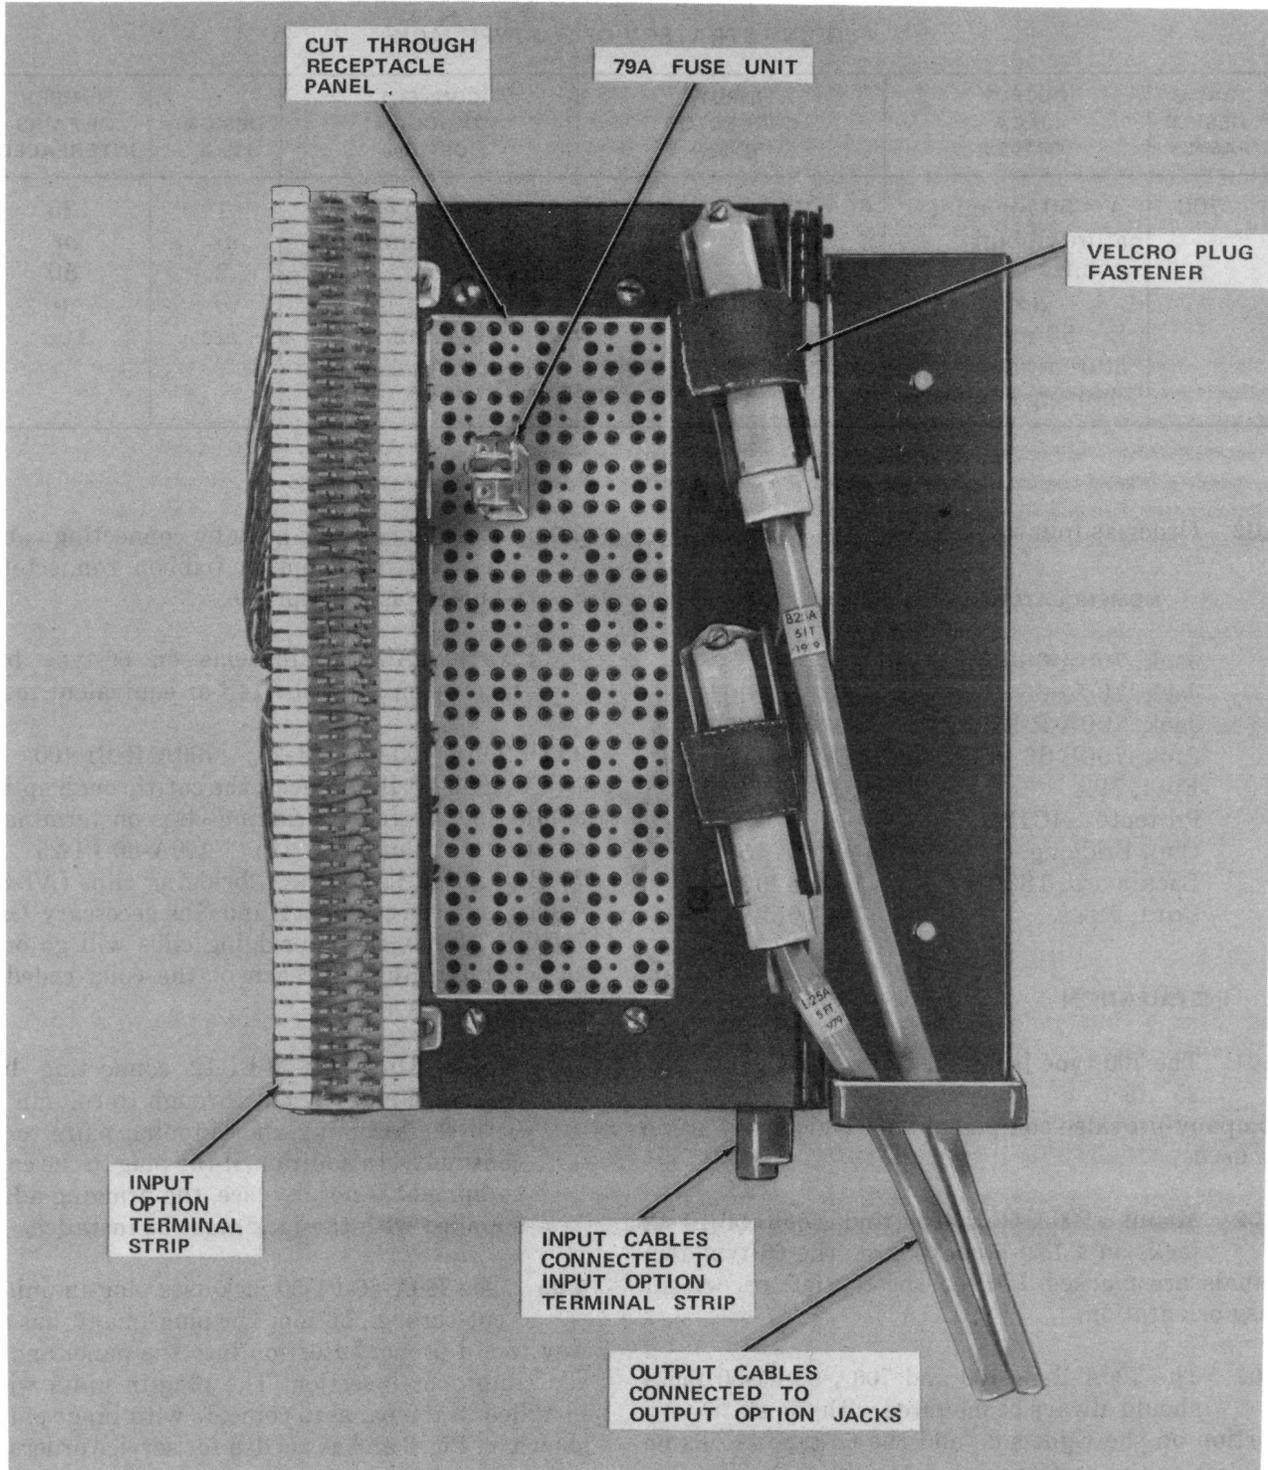
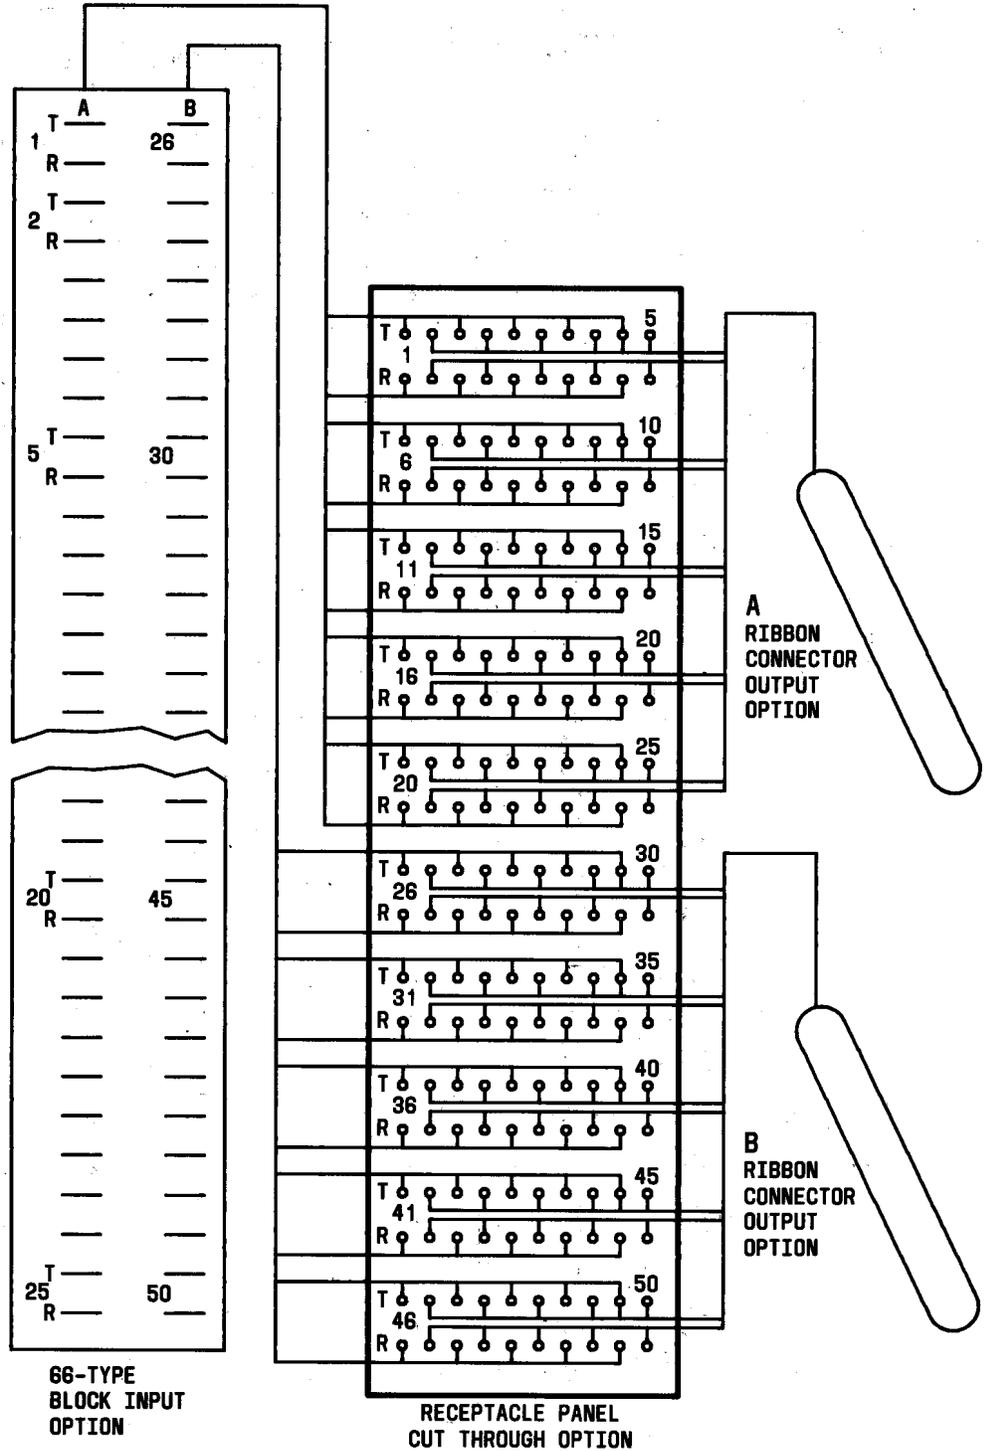

Fig. 2—700A-66-P1-50 Jack
Fig. 6—Wiring of 700A-66-P1-50 Jack
2.05 The 700A-66-P1-50 jack (Fig. 2) is a special purpose interface which provides a 50-pair 66-type connecting block for input option, two 50-pin ribbon connectors for output option, and a receptacle panel which accepts plug-in units for sneak current protection. The panel is separated into two fields, A and B, which coincide with the two output connectors A and B (Fig. 6). The block, connectors, and panel are mounted on a hinged faceplate which allows the input cables to be dressed up the back of the panel and fed through an access hole to the connecting block. The plug-in units (79A fuse or 4C12C dummy protector [Fig. 9]) must be ordered separately as required.
**3.06** The 700A-66-P1-50 jack uses plug-in units for cut-through option. The plug-in unit has a key way to aid proper insertion into the panel and prevent improper insertion. The plug-in units will be installed in the panel to coincide with input pairs as shown on Fig. 6 and as needed for service orders. The 79A fuse is used where sneak current protection is needed and the 4C12C protector (dummy) where protection is not needed.